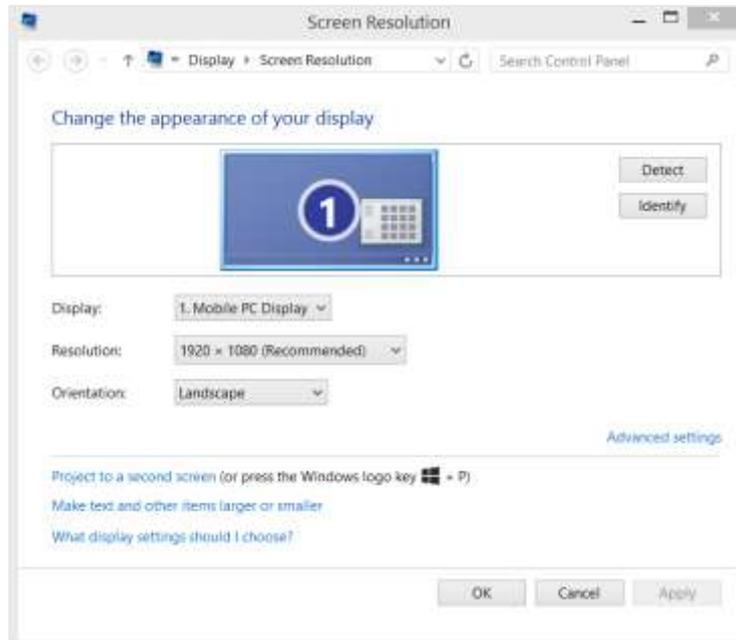

Figure 20. Screen and Display Settings
We recommend StressWin Pro software to be used on 1920 x 1080 (HD) screen resolution. Display properties are needed to be adjusted accordingly. To do this, right-click a blank spot on the Desktop and select “Screen Resolution” from the shortcut menu. You’ll see the dialog box related to display settings shown Figure 20 below. Adjust the resolution to 1920 x 1080 pixels.